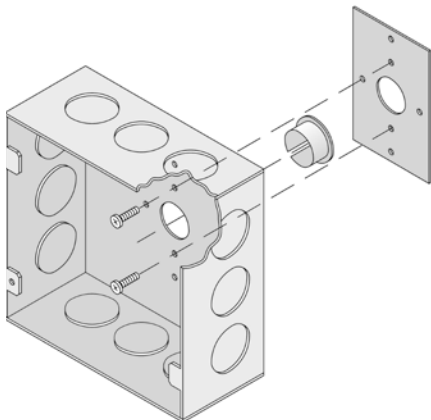
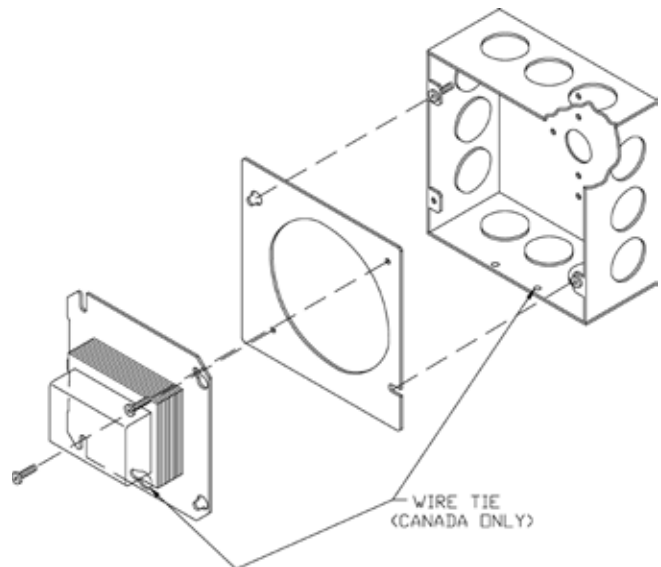

Figure 19A: Junction Box and Mounting Bracket Assembly
Figure 19B: Junction Box and Transformer Assembly
- a. Install Junction Box. See Figure 19A.
- ii. Install mounting bracket to rear of Junction Box with two (2) blunt sheet metal screws provided.
- iv. Install Junction Box to jacket from inside vestibule area with two (2) blunt sheet metal screws provided.
- b. Mount transformer on Junction Box. For Canadian boiler provide strain relief by loosely securing Transformer to Junction Box with wire tie inserted through Transformer plate and a Junction Box mounting hole. See Figure 19B.